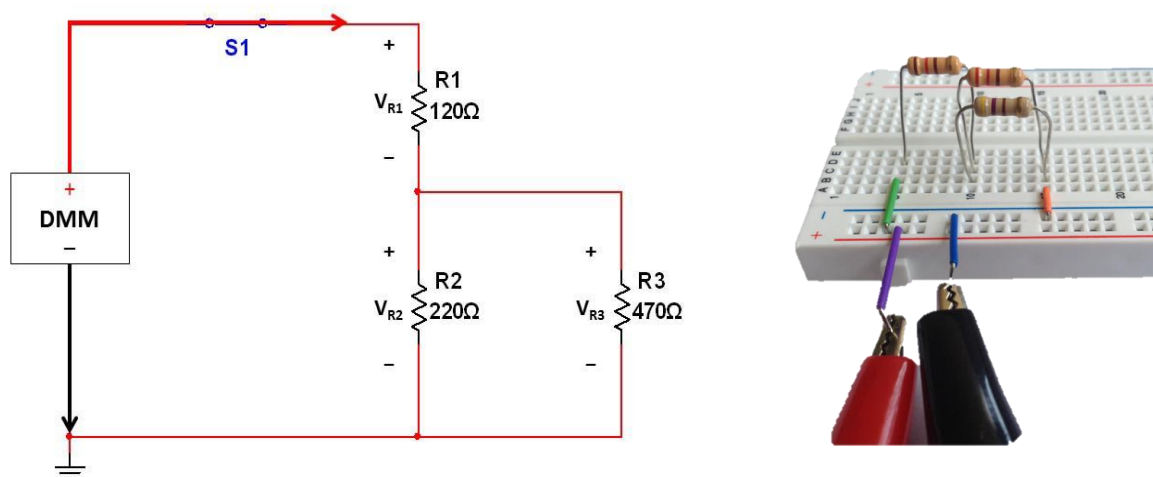

Figure 8.1 - Total Resistance Measurement from Protoboard
4. Before connecting the power source to Circuit 8.1, measure the total resistance as seen by the source terminals and record the measurement in Table 8.1. Check Figure 8.1 for reference.